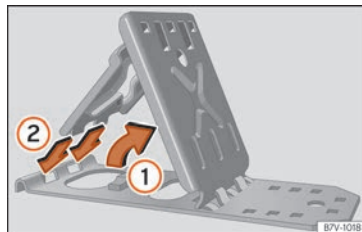

Fig. 103 To unfold the foldable wedges.
- Lift the base plate »» Fig. 103 ①.
- Insert the two "tabs" of the mounting plate into the long openings on the base plate ②.